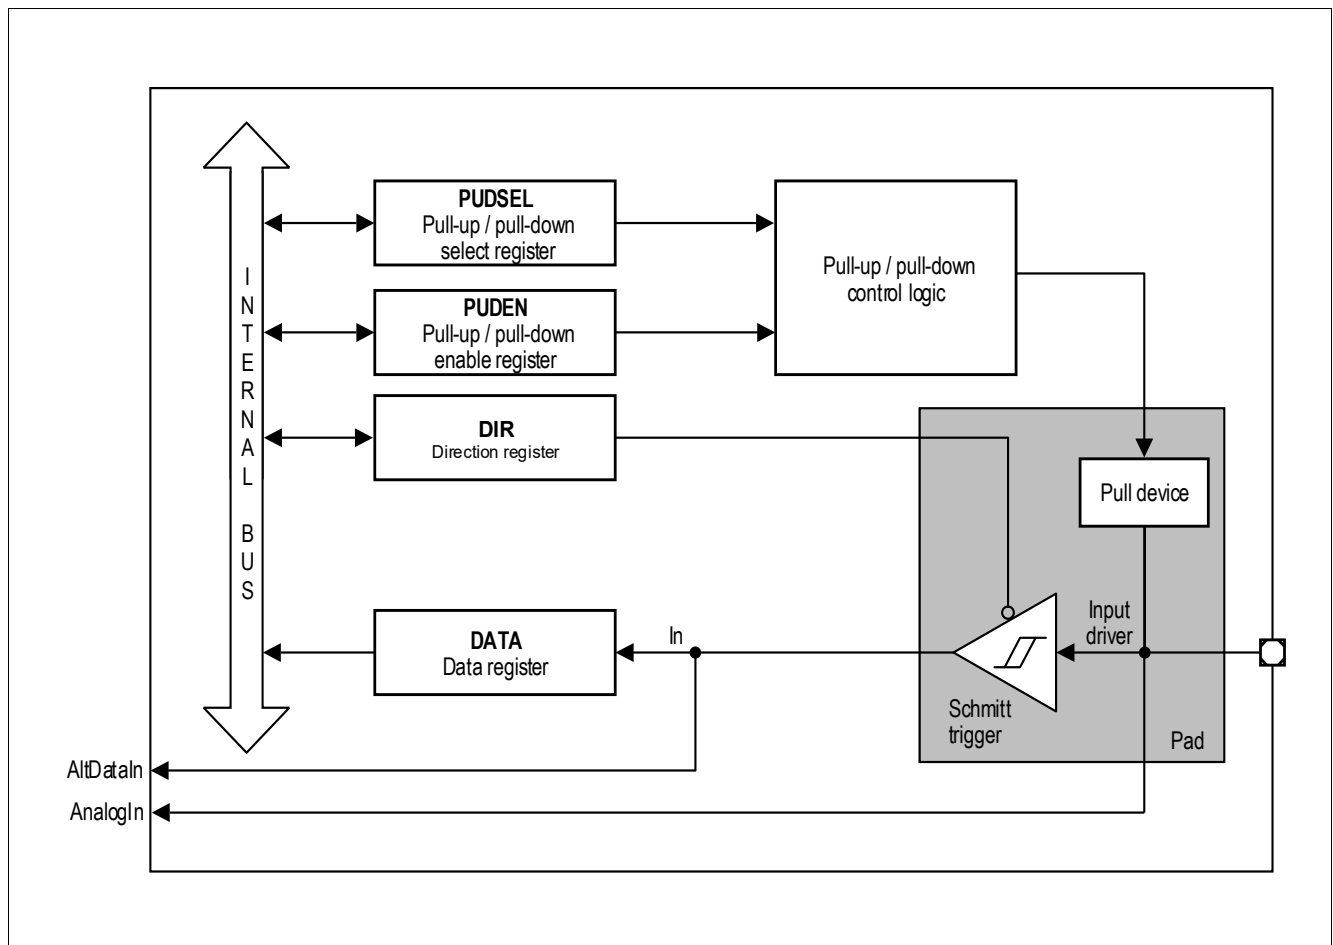

**Figure 16** General structure of a bidirectional port (P0, P1)
**Figure 16** shows the block diagram of a TLE9877QW40 bidirectional port pin. Each port pin is equipped with a number of control and data bits, thus enabling very flexible usage of the pin. By defining the contents of the control register, each individual pin can be configured as an input or an output. The user can also configure each pin as an open-drain pin with or without an internal pull-up/pull-down.